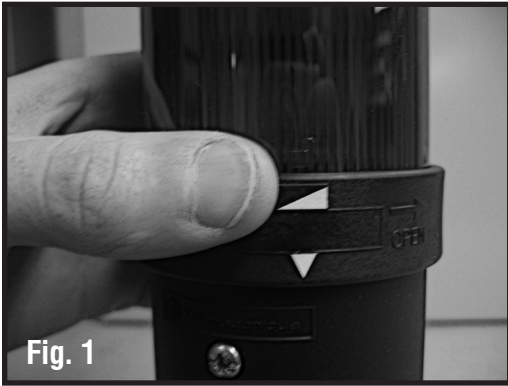

Fig. 1
1. Twist the ring below the bulb to be replaced counter clockwise (Fig. 1).
2. To replace main fuses, firmly but carefully pull down on centre of fuse block. A door will open to reveal the fuse. Replace with the proper size and design (Fig. 1).